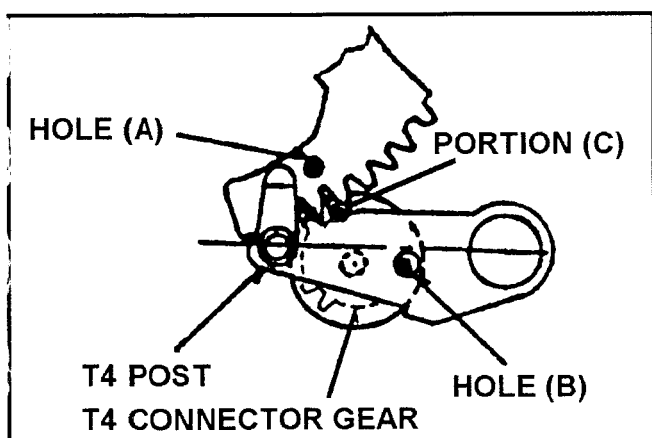

Fig. 6-23-1 Phase of T4 Post
1. Confirm that the hole (B) of T4 connection Gear was matched to hole of T4 post as shown in figure 6-23-1.
2. Confirm that the portion (C) of T4 connection Gear and hole (A), which are located as shown in figure 6-23-1.